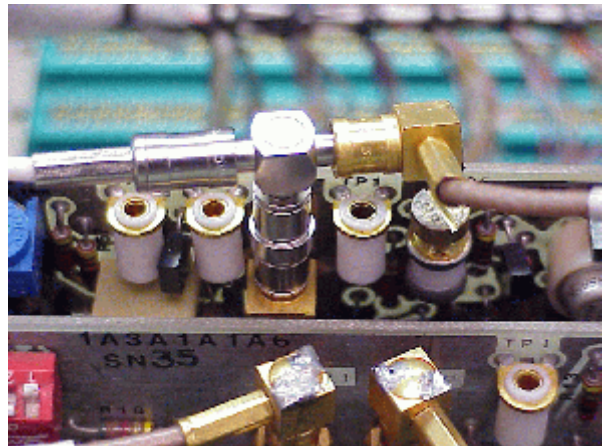

Figure 6
18. Connect the PE9302 tee adapter  to the PE9118 plug  then to J1 on the A7 board (figure 6).